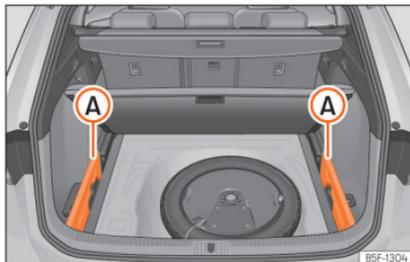

Fig. 127 In the luggage compartment: space to store the retractable shelf.
- Remove the left and right covers »»» **Fig. 127** **A**.